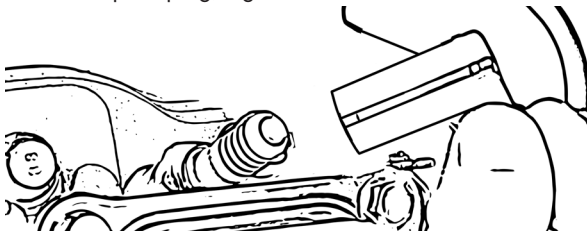

Figure 32
- Push the unit onto the spark plug, Fig. 32.